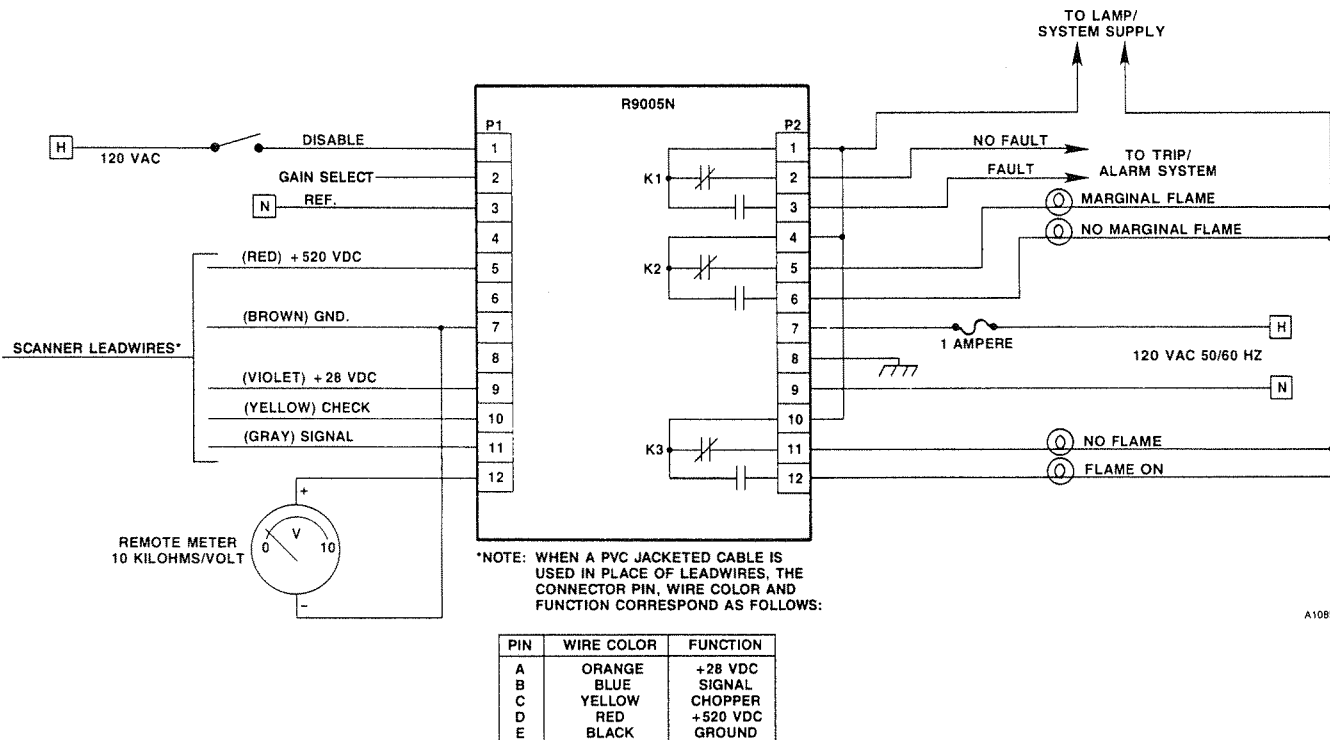

Figure 5—R9005N Electrical Connections
1. The electrical connections of the R9005N Controller are shown in Figure 5.
The R9005N has one scanner input, however, this signal can be routed through one of two gain channels. Connector P1, pin 2 (see Figure 5) on the controller is used to select the gain channel. With no voltage applied, Gain 1 is selected. With line voltage applied to P1, pin 2, Gain 2 is selected. The two gain channels can be independently adjusted using the following procedure.